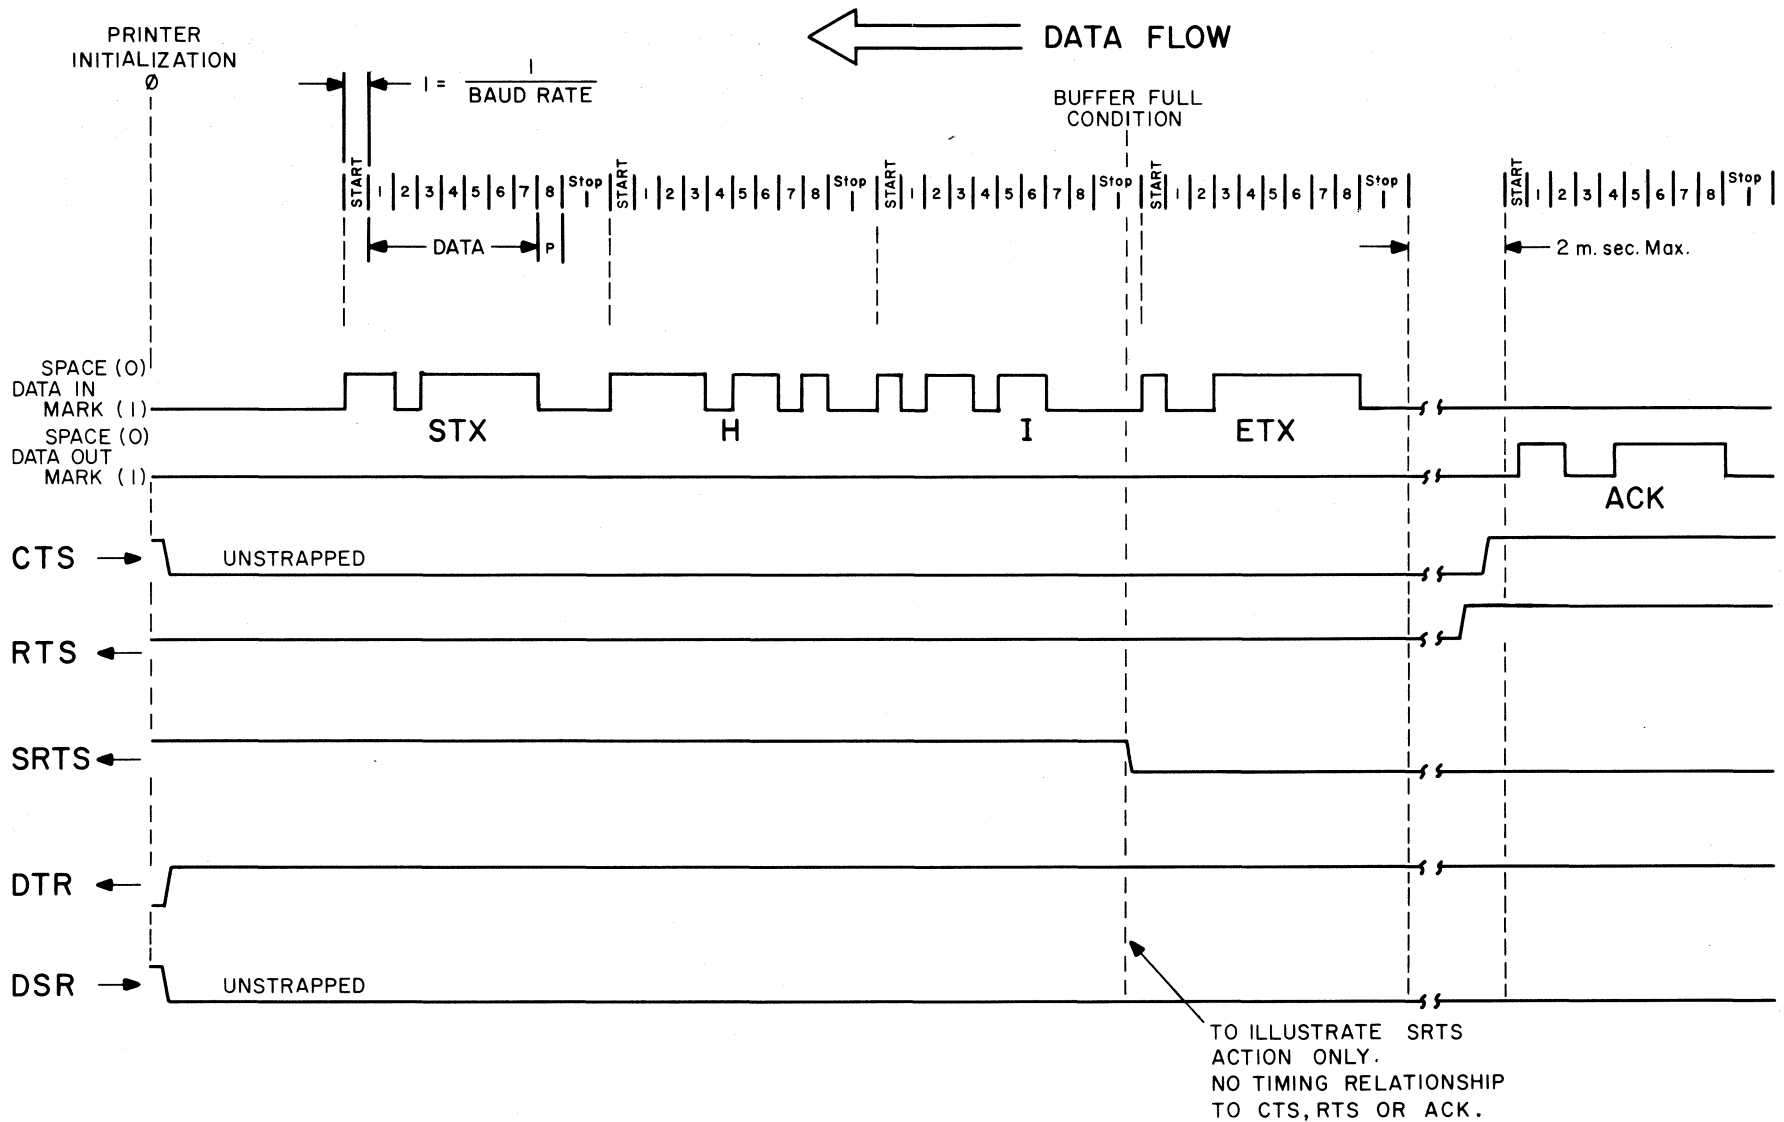

FIGURE 2-9. SERIAL INTERFACE SIGNAL TIMING RELATIONSHIPS
put this line in service. (See Figure 2-9.)
- DSR INPUT - DATA SET READY - This input line is a data source signal indicating that the data source is open for communication and can accept or transmit data. In this status, the signal should be at the MARK level. Normally, in the printer, this line is strapped to the SPACE level. To implement half or full duplex operation, this trace should be cut. (See figure 2-9.) This pin is not inserted in J2 but is available and tied back.
- CTS INPUT - CLEAR TO SEND - This input signal is a data source signal indicating the availability of the data source to receive data. It is expected that this signal is normally at the SPACE level and shifts to the MARK level when data can be received. In the printer, this line is strapped to the RTS output (MARK level). Users requiring half duplex operation should cut the strapping trace. (See figure 2-9.) This pin is not inserted but is also available and tied back.
*NOTE: If RTS, DSR, CTS, and CD are not actively used by the data source there should be no connection to these pins to prevent the introduction of noise and conflicting logic levels to the printer. If they are to be used, then straps A, B, and C should be cut (See Figure 2-9).